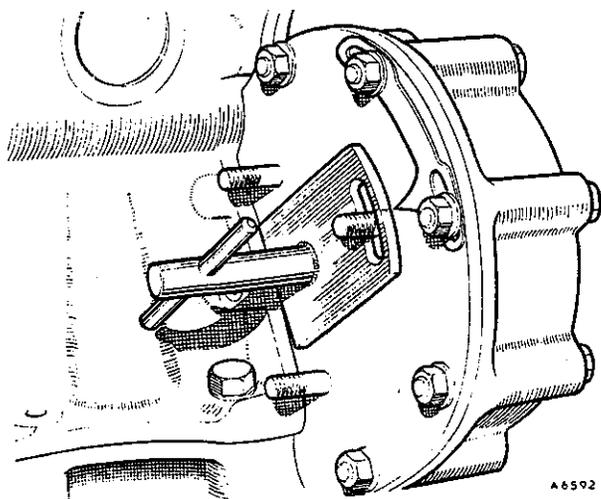

Fig. C.19
- (84) Crank the engine until No. 1 piston is at 16" B.T.D.C. on its compression stroke.
- (85) Insert timing gauge 18G 1052 into the injection pump chain wheel hub from the rear, **engaging** the splines on the tool with those in the driving flange.
- (86) Apply a gentle clockwise (as seen from the rear of the engine) pressure to the gauge to eliminate backlash and line up the timing pointer on the **engine** front plate with the mark cut in the timing gauge (see Fig. C.19).
- (87) Fit the injection pump, complete with high-pressure pipes, to the engine. Align the pump scribe mark with the timing pointer and tighten the three securing nuts.
- (88) Connect the throttle and stop controls, ensuring that both the throttle arm and shut-off lever on the pump have their full range of movement.